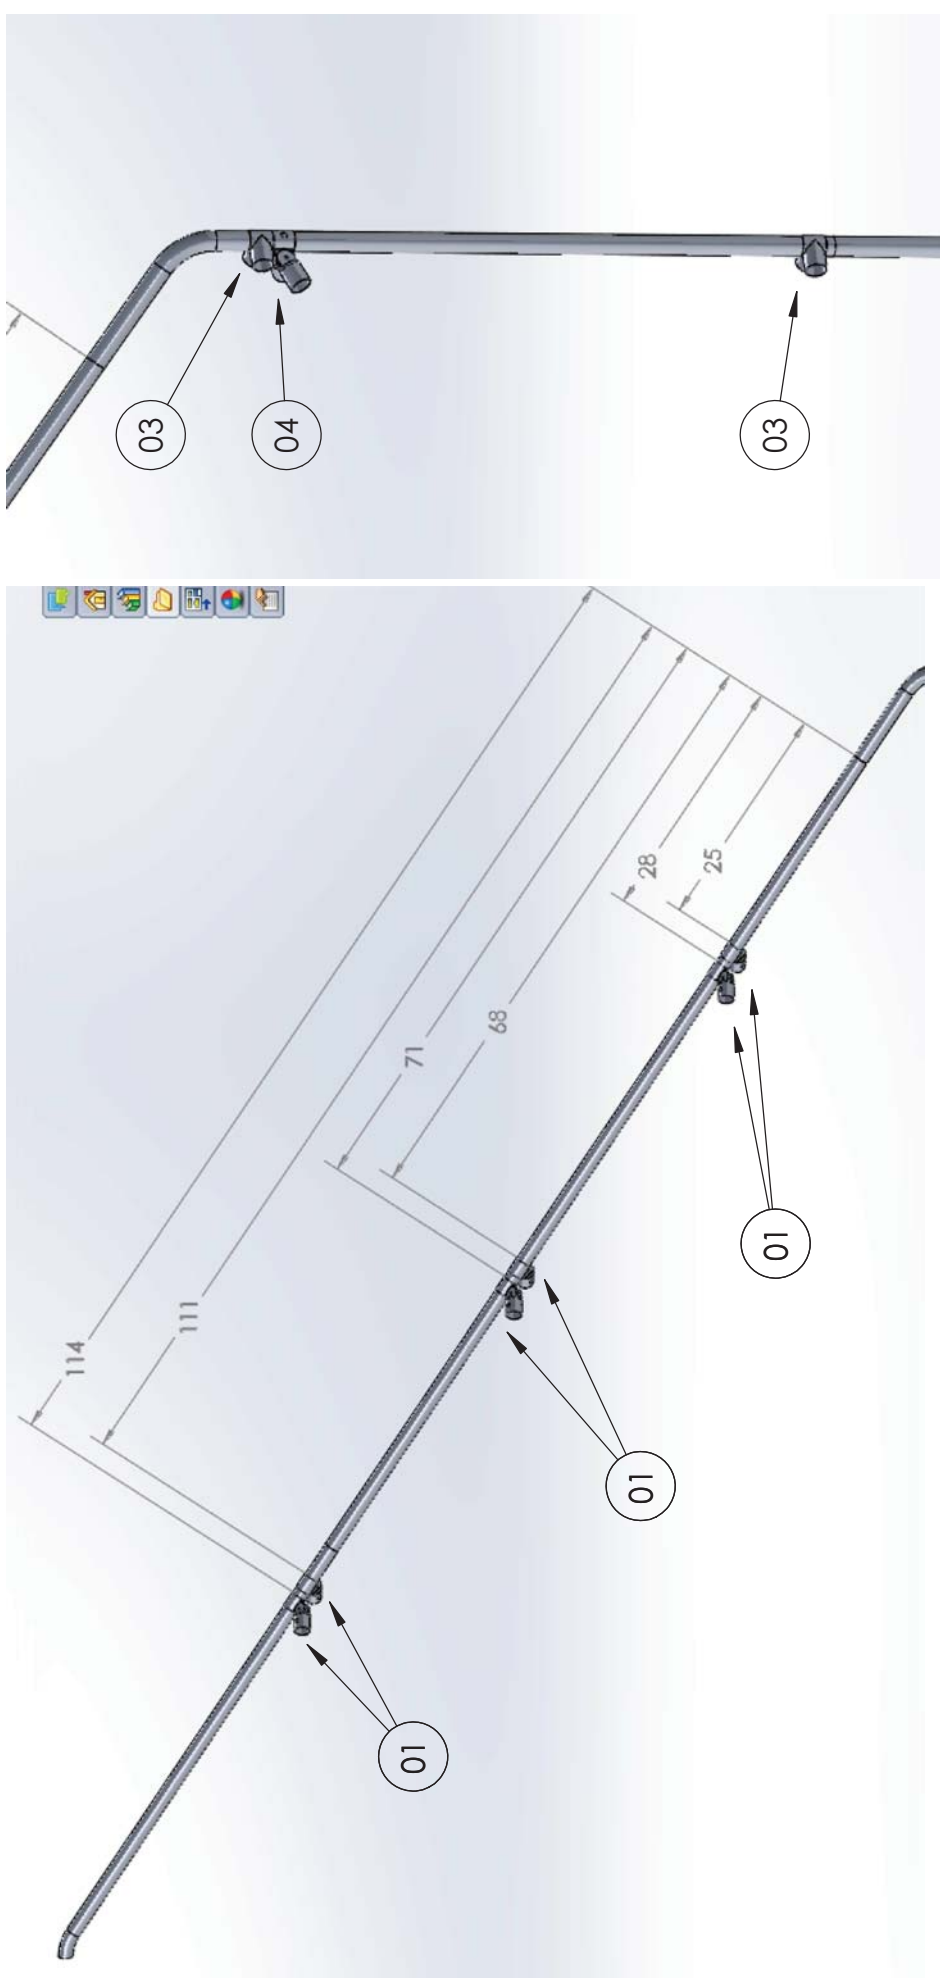

Figure 4: General placement for the point frame sections purlin pipe fittings. DO NOT screw the fittings into the frame yet.
6) Place the 7 swivel pipe fittings and 2 corner Tee fittings **WITHOUT** screwing the fittings down as you assemble the half frame onto the welded peak section. They should be left loose on the correct section of the frame. Screwing the purlin fittings in will be done later when the pulins are installed to ensure accurate placement. The correct assembly is shown below in Figure 4. This section will be the point of the windbreak attachment.